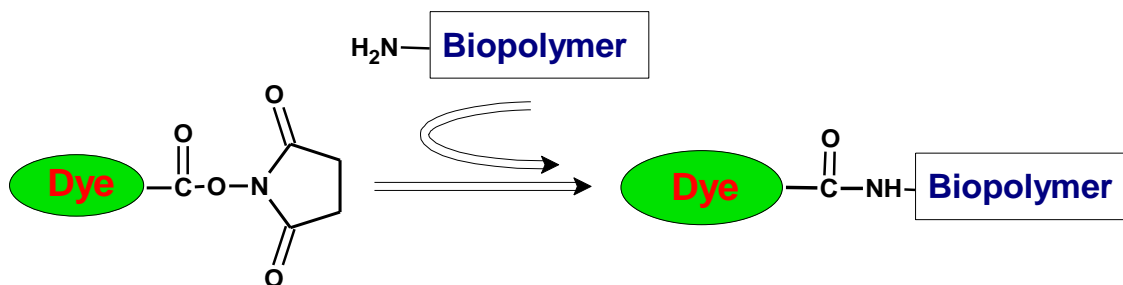

Figure 1. Labeling of an amino group (for instance, a lysine) on a biopolymer (i.e., a protein) with a succinimidyl ester of a dye.
AnaTag™ HiLyte Fluor™ 647 Protein Labeling Kit provides a convenient way to label proteins by using the succinimidyl ester (SE) reactive form of HiLyte Fluor™ 647. The succinimidyl ester shows good reactivity and selectivity with aliphatic amines of the protein and forms a carboxamide bond, which is identical to, and is as stable as the natural peptide bond (Figure 1). HiLyte Fluor™ 647-protein conjugates can withstand treatments performed during immunofluorescent staining, fluorescence *in situ* hybridization, flow cytometry and other biological applications without hydrolysis.